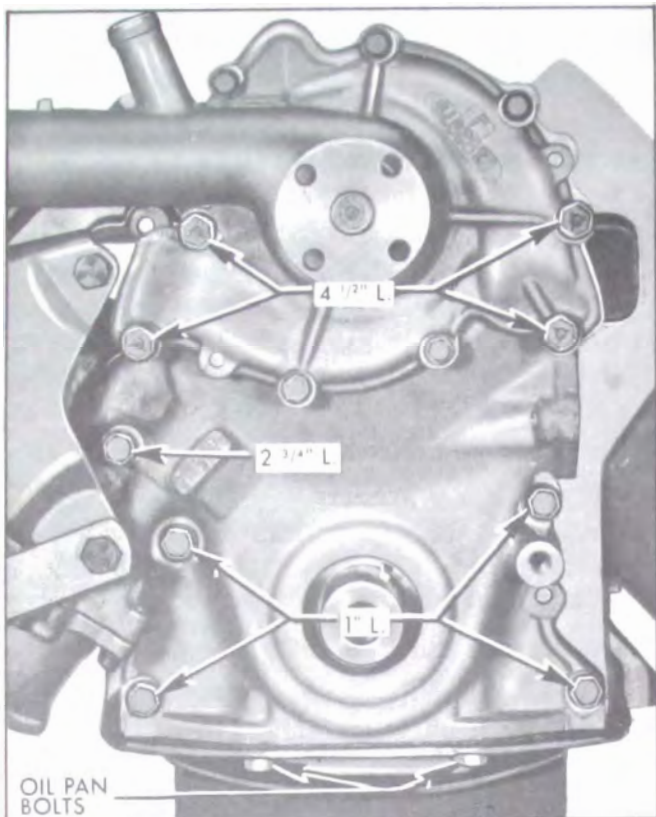

Figure 2-44—Timing Chain Cover Attaching Bolts
12. Remove bolts attaching timing chain cover to cylinder block. Remove two oil pan to timing chain cover bolts. See Figure 2-44. Remove timing chain cover assembly and gasket. Thoroughly clean the cover, taking care to avoid damage to the gasket surfaces.
4. Lube the bolt threads before installation and install them as shown in Figure 2-44.